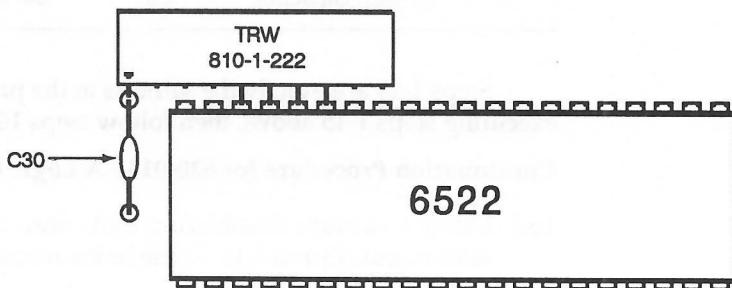

Figure 10-8 6522/resistor network modification details.
16. Refer to Figure 10-2. Check for the presence of a resistor network on the 6522 VIA chip. If you find one, skip to step 17. Otherwise, use a vacuum desoldering tool to clean the solder from pins 23, 24, 25 and 26 on the 6522 chip and also from the top of C30. Insert the resistor network into the desoldered holes, bend the body over 60 degrees so that it's relatively flat to the logic board (not standing straight up), and solder everything back together as shown in Figure 10-8.